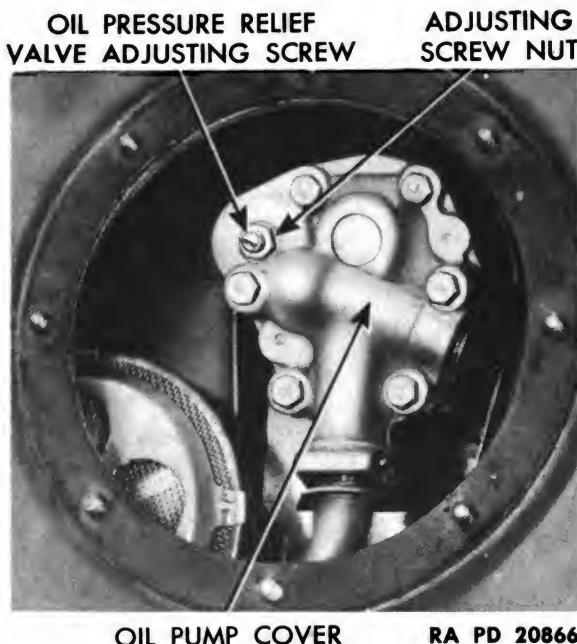

Figure 136 —
b. Adjust. Remove bottom plate from below engine. Drain engine oil. Remove oil pan handhole cover (fig. 57). Loosen adjusting screw nut on oil pressure regulating screw (fig. 136). To increase oil pressure, turn oil pressure relief valve adjusting screw clockwise. To decrease pressure, turn screw counterclockwise. One complete turn of adjusting screw changes pressure approximately 8 pounds. After adjustment is made, tighten lock nut. Replace handhole cover, and fill engine with oil. Test oil pressure (subpar. a above). Replace bottom plate.